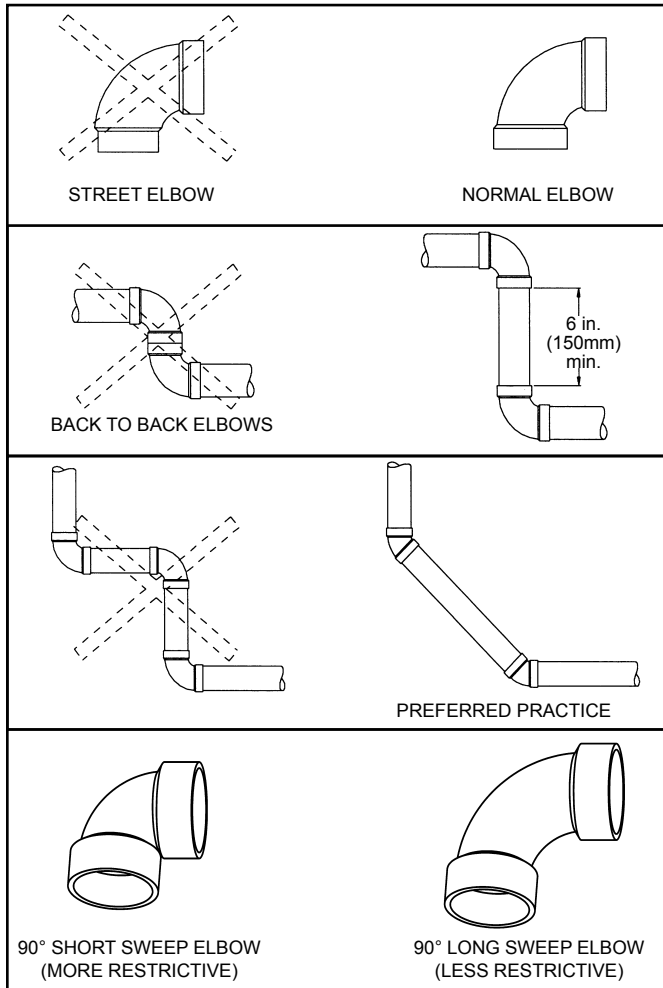

Figure 31
3. Avoid using 90 degree elbows "back to back" and do not use street elbows. Maintain a minimum 6" (152mm) straight section between elbows. Closely coupled and short radius elbows reduce the venting capacity. Figure 31 shows examples of vent pipe connections.